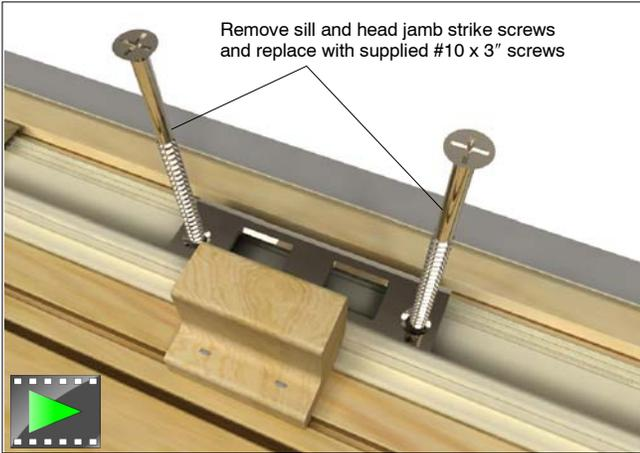

Figure 8: Replace strike screws with #10 x 3" screws
- Remove the screws from the sill and head jamb strike. Place a dollop of silicone over the screw holes and reinstall the sill strike with the supplied #10 x 3" long screws. See figure 8. Insert shims between header and head jamb; adjust shims until the head jamb is flat and level and reinstall the head jamb strike with the supplied #10 x 3" long screws. See figure 8.